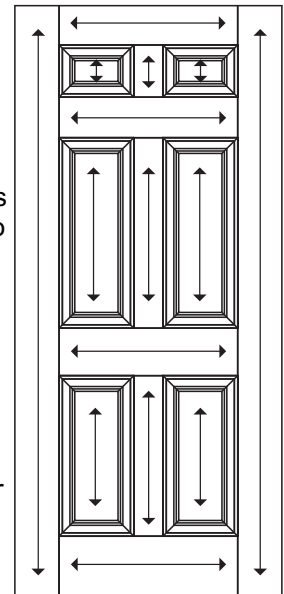

Figure 6
All surfaces of a tan woodgrain door are stainable. Our patented textured fiberglass door surface yields superior stain adhesion without sanding. Select a high quality water-based stain from Minwax® or Behr® or a high quality gel stain from Minwax® or Olympic®. Or, select a high quality oil-based stain from Ace®, Minwax®, or Zar®. Before applying a stain, wipe the fiberglass door and door lite frame with a damp cloth to remove any dirt, oil, or debris. Allow the surface to fully dry before staining. Apply an even amount of stain with a brush or lint-free cloth in the direction of the wood grain as shown in Figure 6. Work the stain into the surface. Lighten stain and remove excess through wiping with a clean rag before stain dries completely. For a darker appearance, apply a second coat after first coat dries. Follow the application instructions on the stain container label. After stain has dried for at least 24 hours, apply three coats of high quality exterior grade satin or low gloss polyurethane in the direction of the wood grain. Follow the label's drying time between coats. **Important:** Use polyurethane with ultraviolet (UV) inhibitors.
Tan woodgrain or unpainted/pre-painted smooth fiberglass doors are paintable with most high quality oil based exterior paints. For the unpainted smooth doors, we recommend lightly sanding with 600-grit sandpaper for the best results. Before applying a paint, wipe the fiberglass door and door lite frame with a damp cloth to remove any dirt, oil, or debris. Allow the surface to fully dry before painting. Paint the door in the directions shown in Figure 6. Apply at least two coats of paint. Follow the brand's recommended drying time between coats.